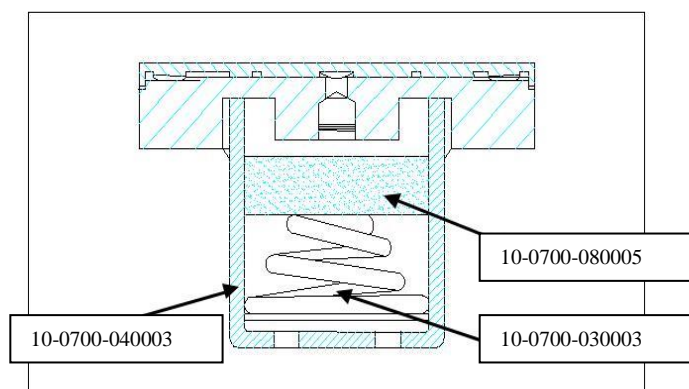

Figure 17
10.0 ALARM CAP DISASSEMBLY/REASSEMBLY- BOTTOM, MIDDLE OF 30L LOW FLOW BLENDER (FIGURE 17)